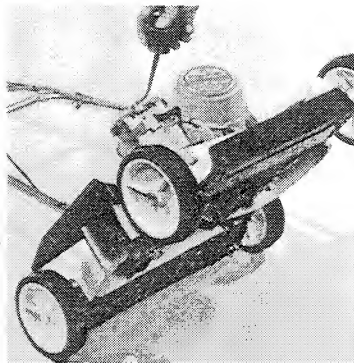

FIGURE 26
- (3) Position mower as in Figure 26 and put five (5) drops of motor oil in the reservoir. Do not over-lubricate.
- (4) Replace the motor cover so the printing on the label faces the same way as the "Black & Decker" cast into the deck. Carefully slide it down over the motor without forcing it. The lower motor bearing has been lubricated at the factory for the life of the bearing.